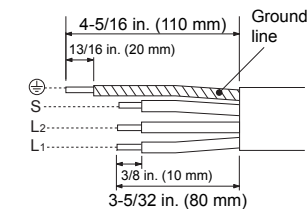

Fig. 10-4-6
7. Pull out the connecting wire through the conduit pipe and process the wire. (Fig. 10-4-6)